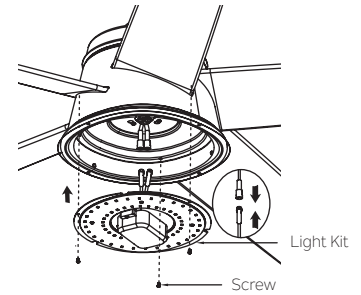

Fig. 21
Step 1. Connect the 2 single pin connectors from the light kit to the 2 single pin connectors from motor assembly. Align three round holes on the light kit with the holes on the switch housing, securely tighten with three (3) screws found in light kit hardware pack. (Fig. 21)